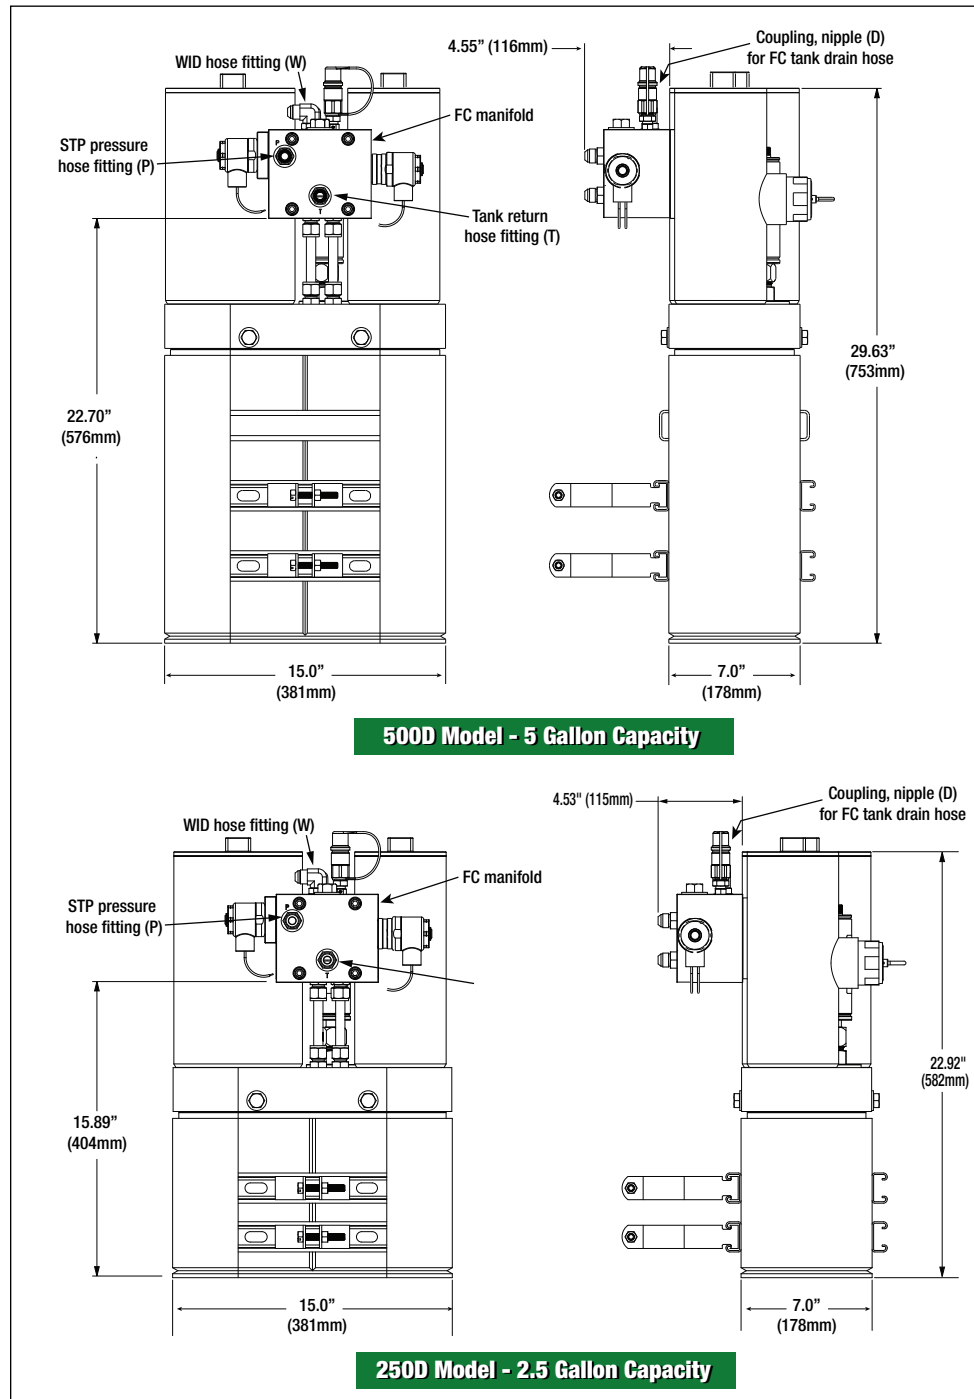

Figure 12. FC Dimensions
1. The dimensions of the two HydrX models are shown in Figure 12. 10 inches of clearance must be available between the top of the filter caps and the sump to allow for easy replacement of filter elements.